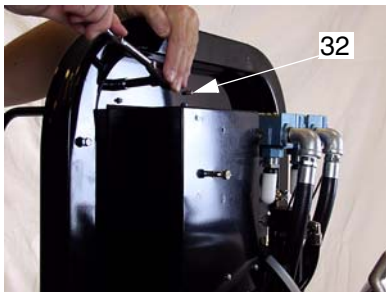
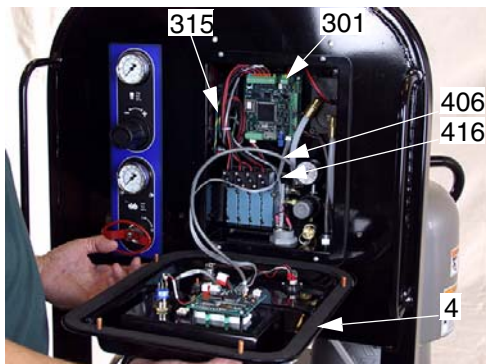

FIG. 7
FIG. 8
3. Remove four nuts (32) and open user interface cover (4). FIG. 7–FIG. 8.
4. To completely remove cover (4), disconnect ground wire (315), wires (416 and 406) from main board (301). See FIG. 8 and **Electrical Schematic**, page 28.